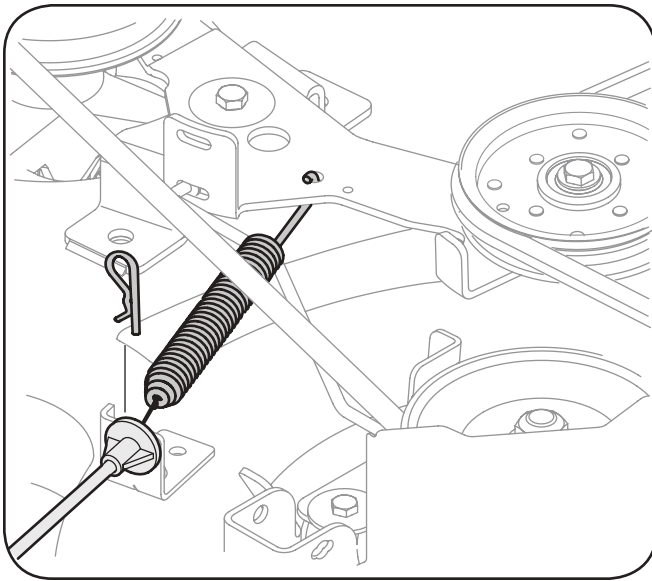

Figure 7-4
9. Carefully remove the PTO cable from the rear of the cutting deck by removing the hair pin clip which secures it. Remove the spring from the deck idler bracket. See Fig. 7-4 on the next page.